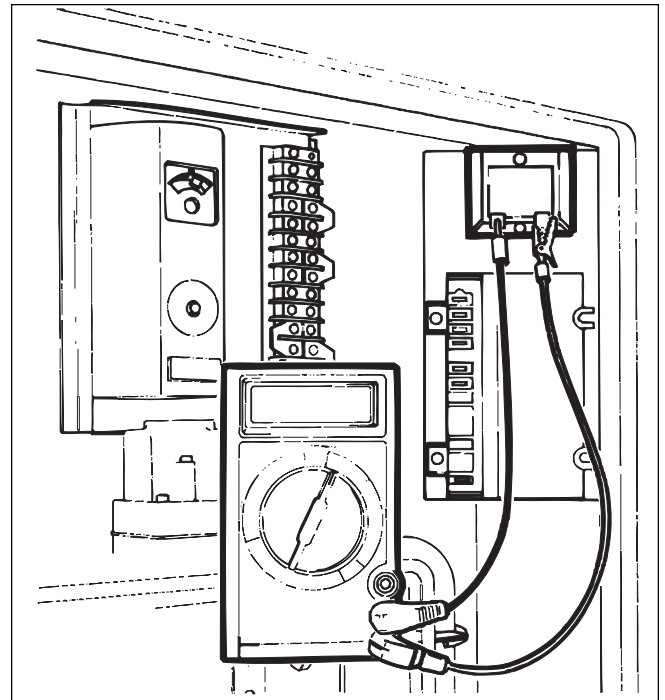

Figure 35. Testing the transformer.
2. Touch the other lead to the red wire terminal (see Figure 35). The voltmeter should read 24 to 28VAC.